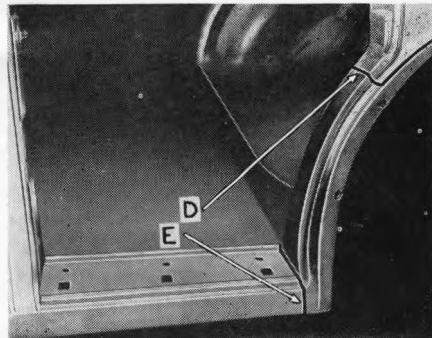

FIG. 4
- 3. With a welding torch, clean off the solder from the original weld "D" Fig. 4, then saw through this weld.
4. Saw the end of the rocker panel and the floor pan at "E" Fig. 4.
- Tack weld to the rear quarter panel and the lower end to the rocker panel, "D" and "E" Fig. 4. Again place the rear fender in position, also close the rear door and check alignment. Remove the fender.
- Weld across "D" and "E" Fig. 4.